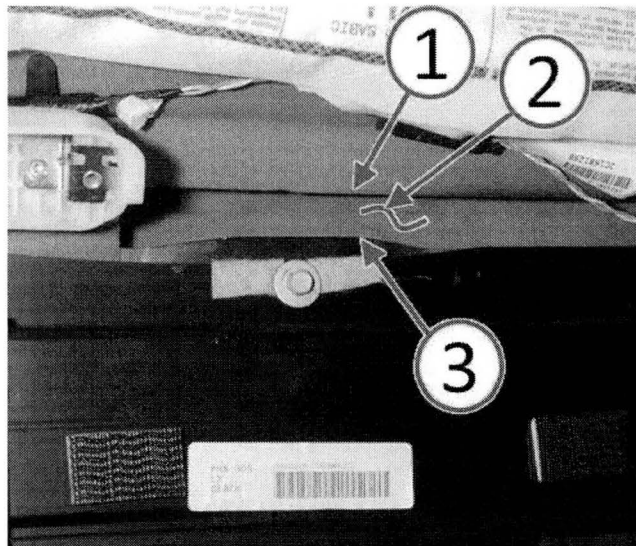

Fig. 2 Vehicle Roof Underside
3. Locate the center of the low spot on the underside of the roof (2). The roof spacer from the PARTS REQUIRED section of this bulletin will need to be inserted between and above, the bodyside aperture flange (1) and the sunroof reinforcement ring (3) (Fig. 2).
4. Clean the top side of the bodyside aperture flange (1) and sunroof reinforcement ring (3) with isopropyl alcohol in the roof low spot area (2) where the roof spacer will be installed (Fig. 2).